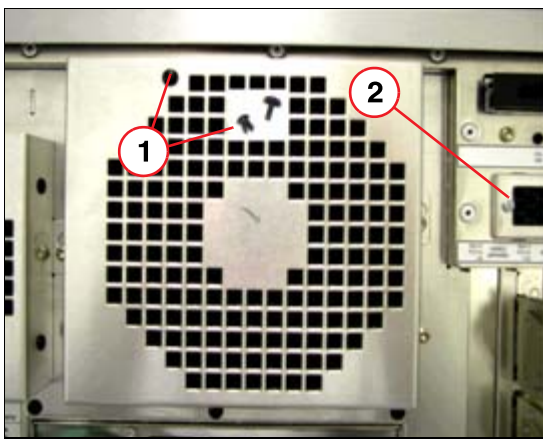

Fig. 29: Mounting of filter pads
- Remove the plastic, expanding rivet of the fan cover with a knife (1/Fig. 29 / p. 47). This rivet is only a transportation lock and cannot be installed again.
- Loosen the Phillips screw (2/Fig. 29 / p. 47) on the frame for the small filter pad (111mm x 21 mm).